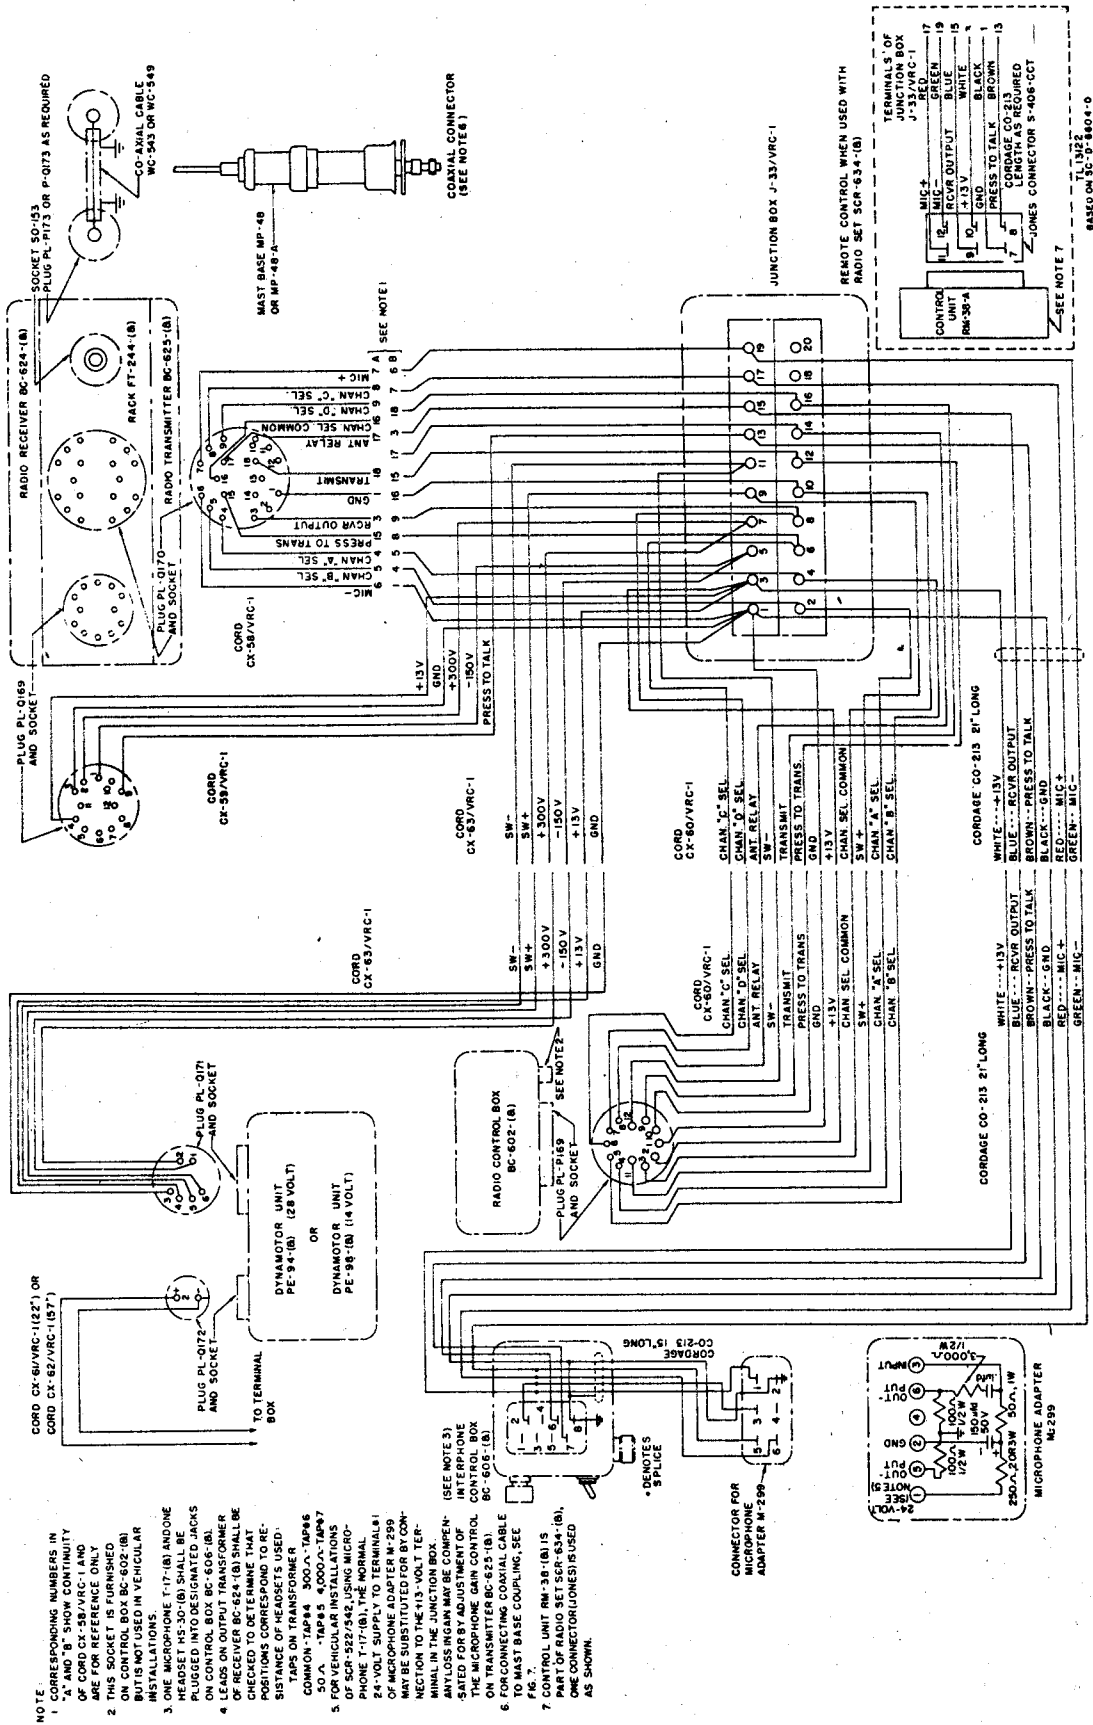

Figure 12. Cording diagram for v-h-f component of Radio Set AN/VRC-1.
17. CORDAGE DATA. The following diagrams and pictures give detailed cording data for Radio Set AN/VRC-1. See figures 12 through 19.